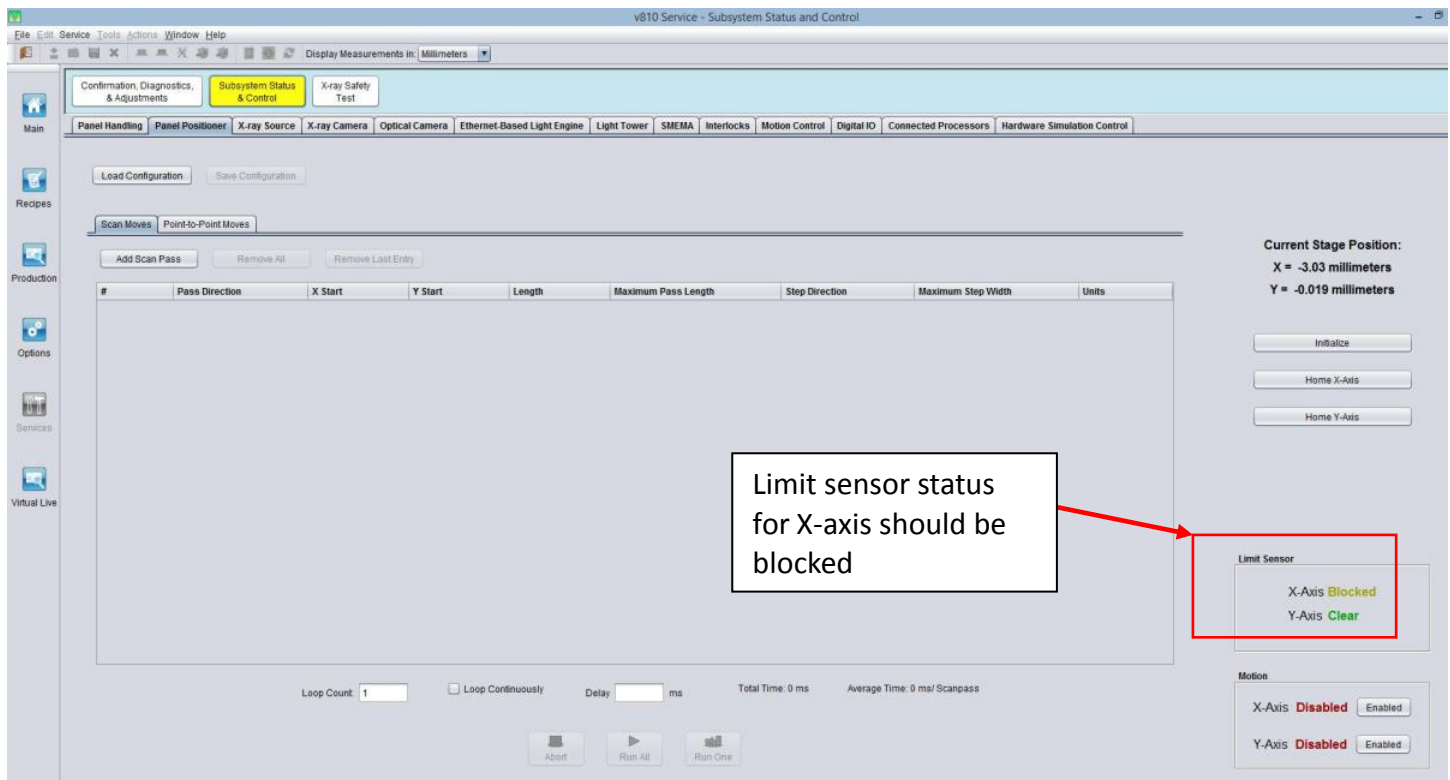

Figure 26 X-Axis Limit Sensor
41. Push the stage to the minimum hard stop (left outer barrier side) and status of the X-axis limit sensor should be indicated as “Blocked” as shown in Figure 26.